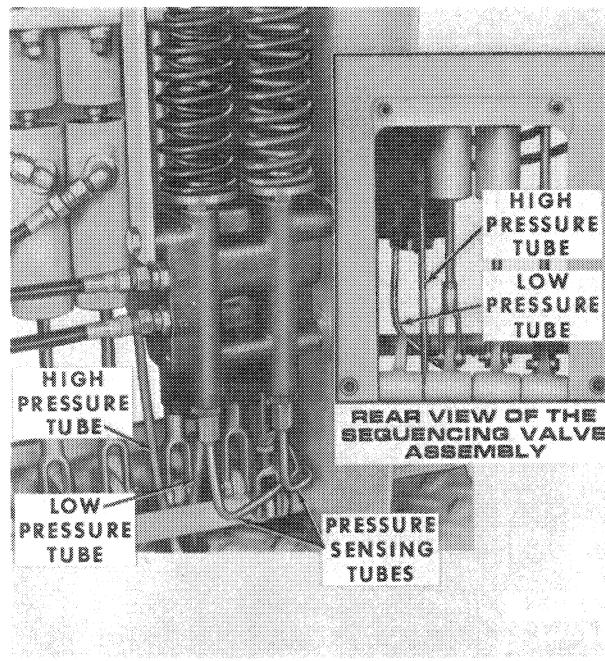

Figure 13
5. Disconnect the two pressure sensing tubes and the high and low pressure tubes, Figure 13, (rear of sequencing valve, see insert, Figure 13) at the sequencing valve assembly.
3. Attach the high and low pressure tubes, Figure 13, to the sequencing valve assembly. Tighten the fittings securely.